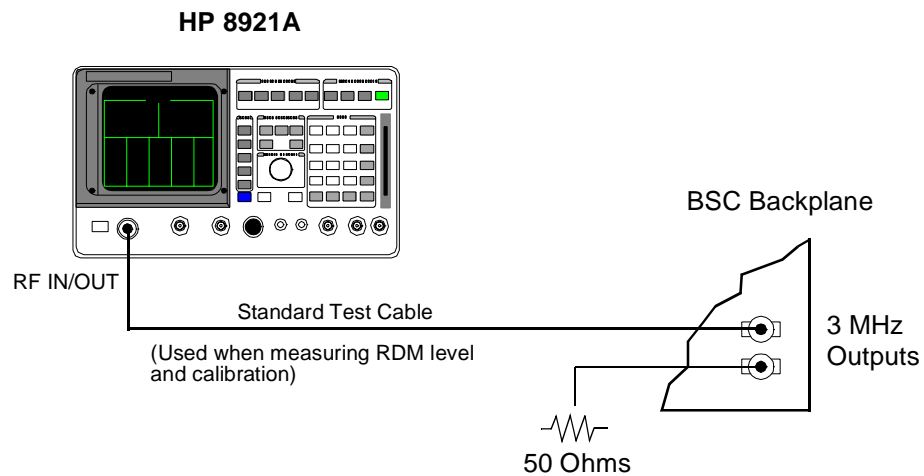

Figure 11
7. See figure 11. Connect a standard test cable between the 3 MHz Phono #2 jack, and the RF IN/OUT connector on the Test Set.